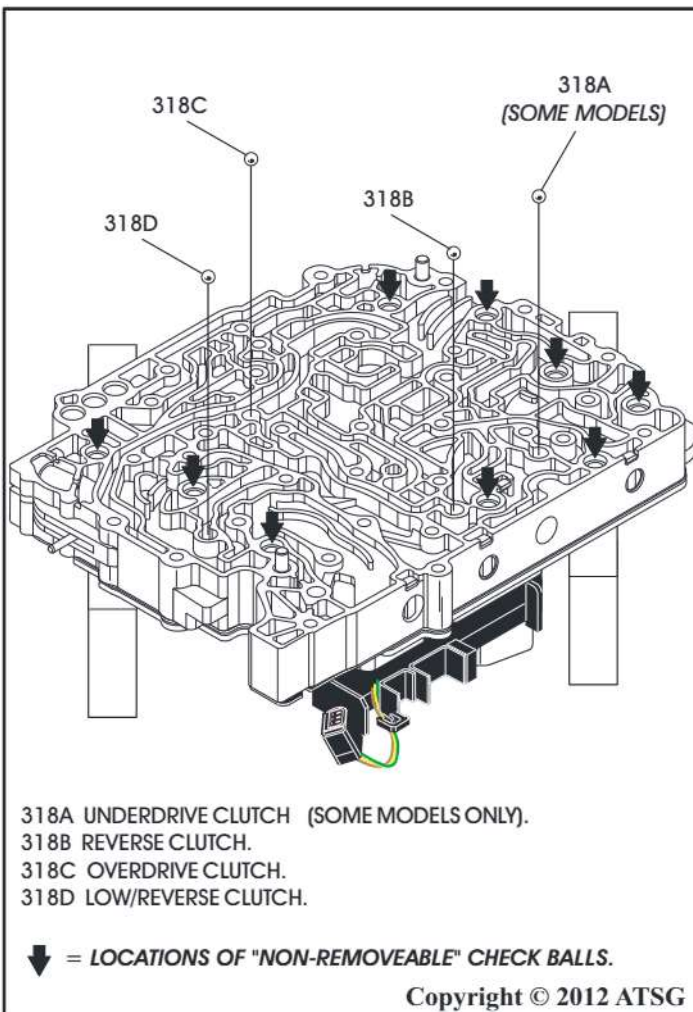

Figure 222
39. Very carefully turn the assembly over and place on flat work surface, as shown in Figure 222.
40. Install the 3, or 4, check balls in their positions, as shown in Figure 222 and 223.
Note: The large arrows in Figure 222 show the locations of nine "Non-Removeable" check balls (See Page 156).